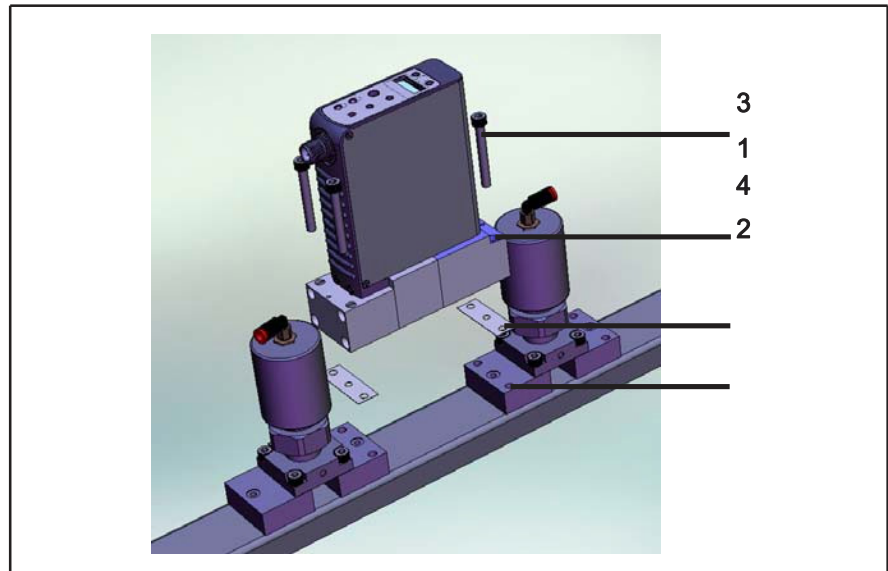

Figure 2-3 GP200 Series Mounted to K1 Series Substrate Blocks
1. Refer to Figure 2-3 GP200 Series Mounted to K1 Series Substrate Blocks Figure 2-3 below. If downported fittings (1) are used, the GP200 Series is mounted to K1 Series substrate blocks (2) with four screws (3). Metal C-seals or W-seals (4) (as provided by integrator) are inserted between the GP200 Series and substrate blocks before the screws are installed. These metal seals must be replaced after each installation.
3. Refer to Figure 2-3. Insert the two mounting seals (4) over the gas flow path of the K1 block. Carefully align the GP200 Series mounting holes onto the K1 substrate blocks. Using your fingers, install the screws through the GP200 Series fitting and hand tighten.